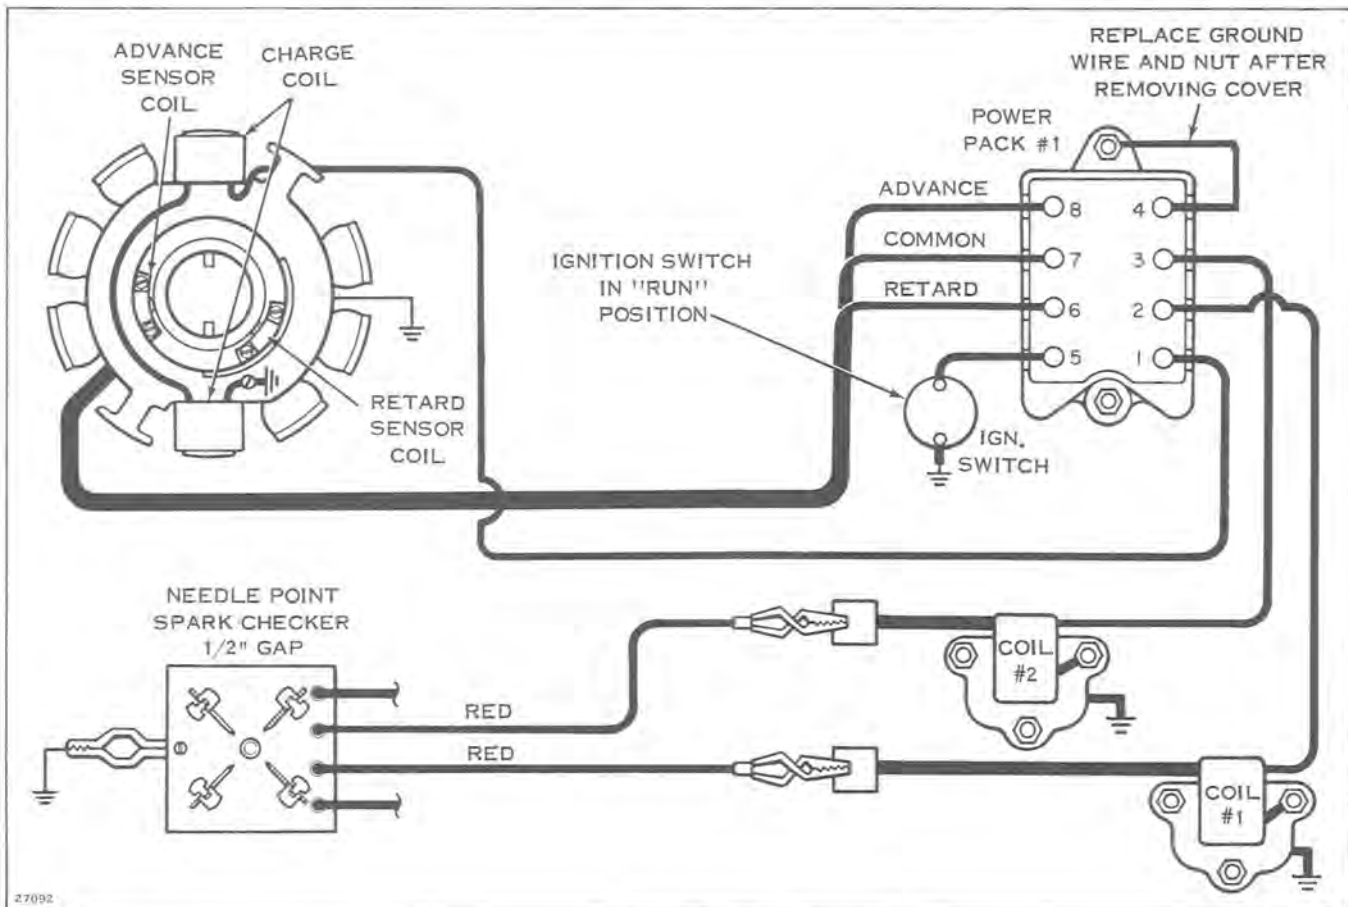

Figure 7-11
- B. Connect spark gap checker with 1/2" gap. See Figure 7-11.
- C. Put ignition switch in "RUN" position, remove plugs for easier cranking and use starter rope to crank. See Figure 7-11.